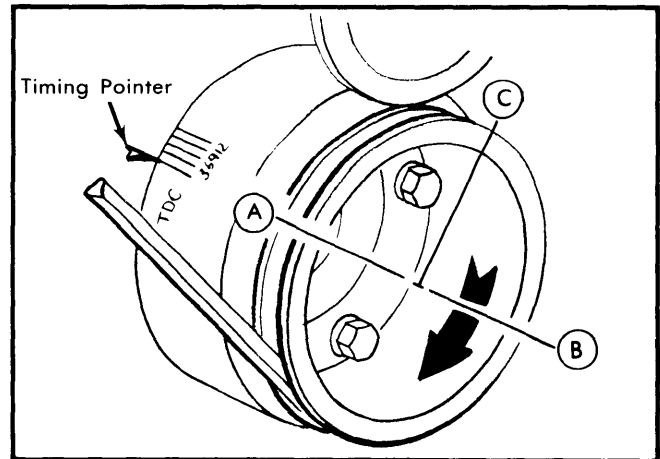

Fig. 8 Crankshaft Positions for Adjusting Hydraulic Valve Lifters
2) With No. 1 piston on TDC at end of compression stroke (position A in Fig. 8), check valve clearance on the following valves: No. 1 intake, No. 1 exhaust, No. 7 intake, No. 5 exhaust, No. 8 intake, No. 4 exhaust.
3) Rotate crankshaft to position B as shown in Fig. 8 and check valve clearance on the following valves: No. 4 intake, No. 2 exhaust, No. 5 intake, No. 6 exhaust.
4) Rotate crankshaft to position C as shown in Fig. 8 and check valve clearance on the following valves: No. 2 intake, No. 3 exhaust, No. 3 intake, No. 7 exhaust, No. 6 intake, No. 8 exhaust.